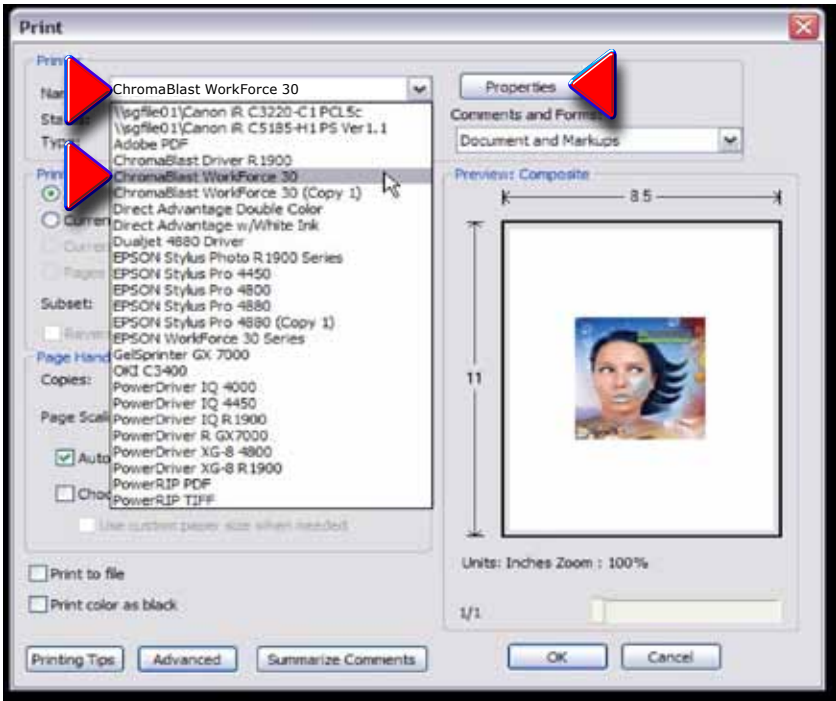
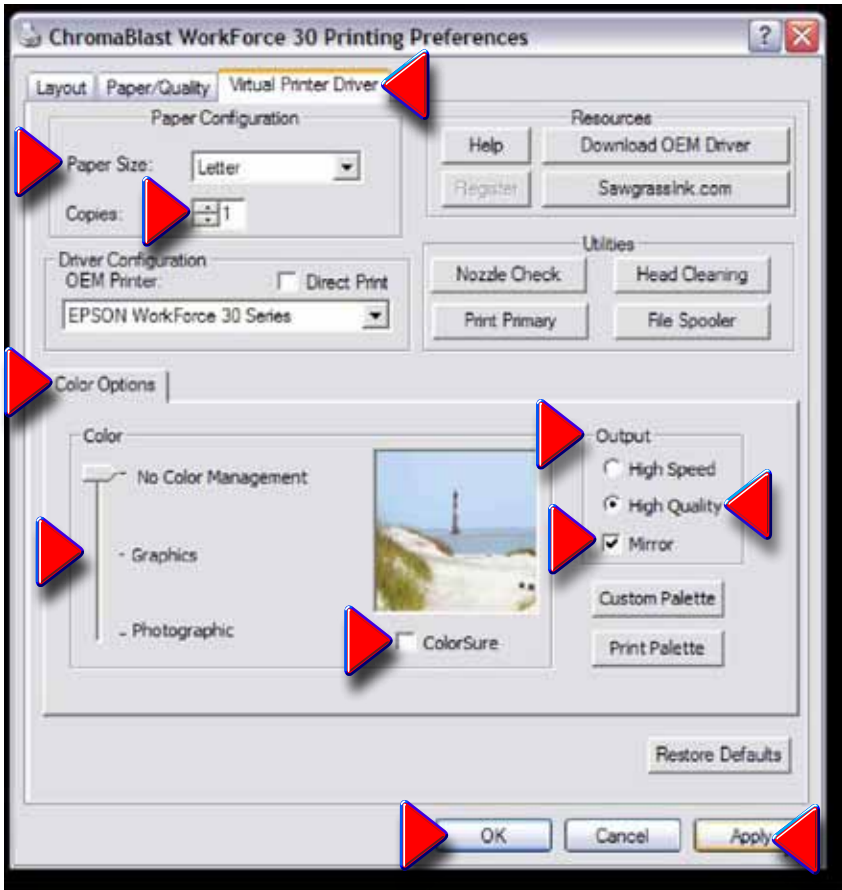

Figure 2
Figure 3
- 3) In **Figure 3**, you must set preferences according to the printing you require, either **“Photographic”**, **“Graphics”**, or **“No Color Management”**. You need also choose **Paper Size**, **Number of Copies**, **“High Speed”** or **“High Quality”**, **“Mirror”** or not, and **“ColorSure”** involvement, if any. Once this is done, click on **“Apply”**, then click **“OK”** to return to the **“Print”Window (Fig. 2)**. Here, click on **“OK”**, and then **“Print”**.